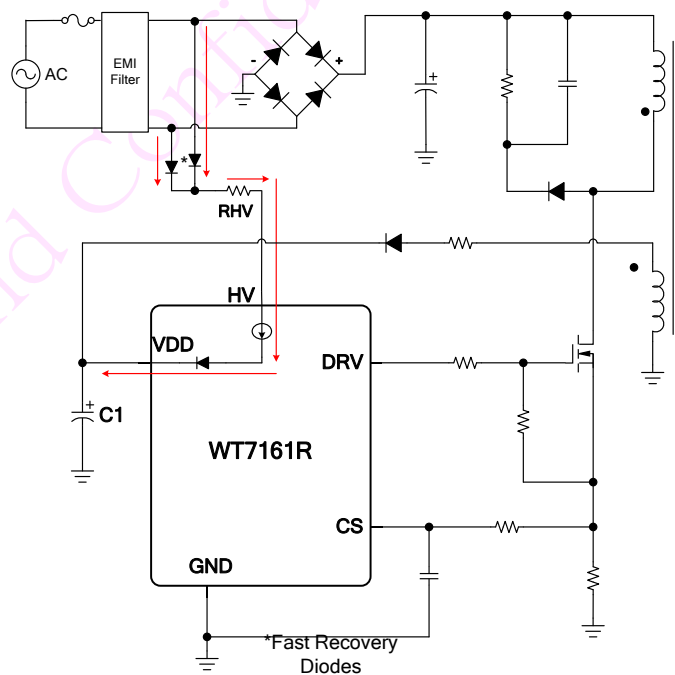

Fig. 5.1
The WT7161R is implemented with a high-voltage startup circuit for fast start-up functions and reduce power dissipations, as shown in Fig. 5.1. At startup, the high-voltage current source sinks current from AC Line and Neutral to provide startup current and charge the capacitor C1 which connected to VDD. At the startup transient, the HV current will charge VDD capacitor until this VDD voltage reaches the UVLO (ON) threshold. As VDD trips UVLO (OFF), HV pin will recharge VDD capacitor till VDD voltage rise back to UVLO (ON) again. The resistor RHV connected in series with HV pin is recommended in the range between 100Ω and 510Ω. Besides, recommended that the VDD capacitor C1 connected with VDD pin is in the range from 22μF to 47μF. It is important to note that it is not allowed to connect HV pin to any dc voltage. (e.g.: directly to bulk capacitor)